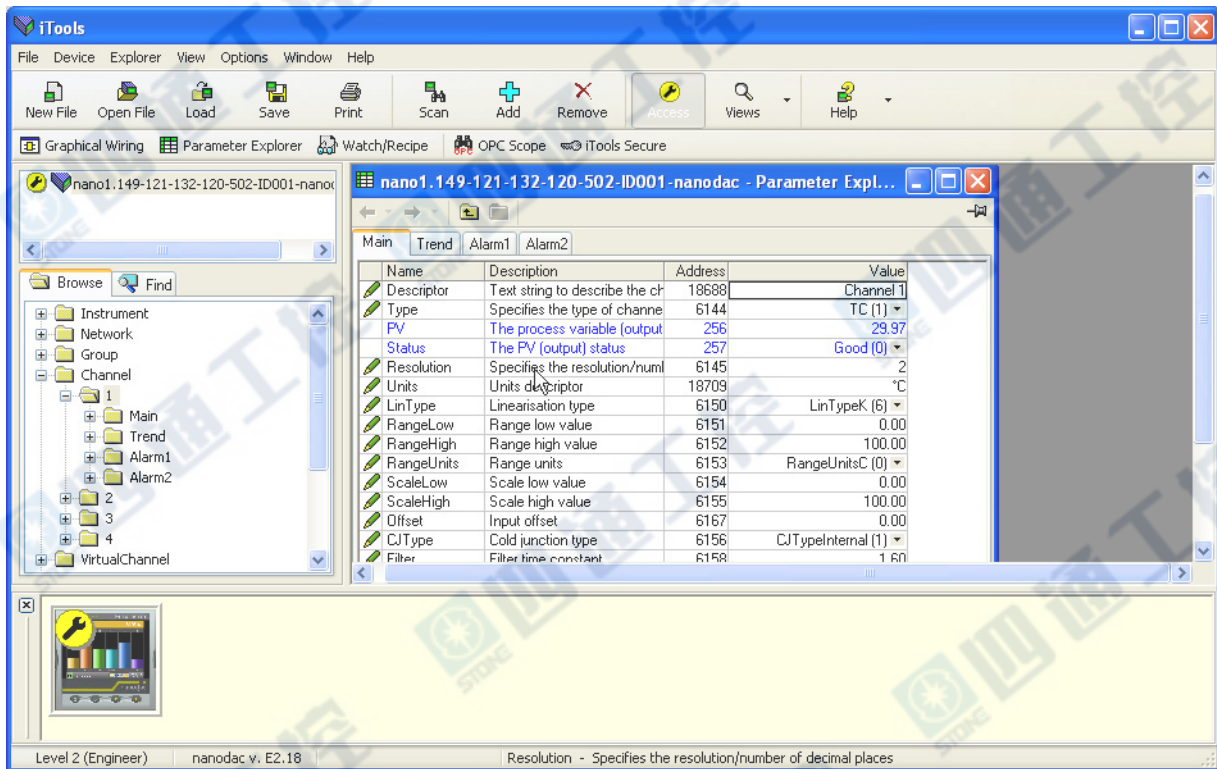
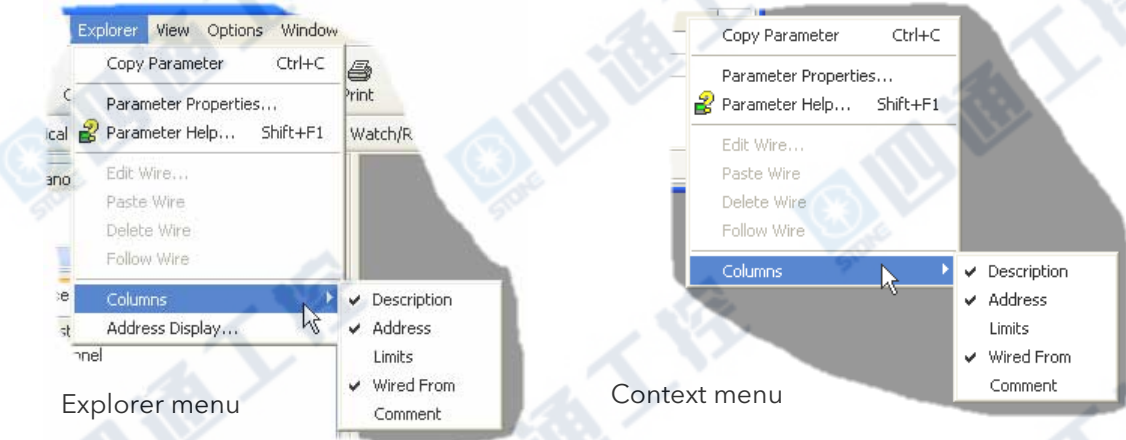

Figure 6.4a Parameter table example
Figure 6.4b Column enable/disable
In each case the function block parameters appear in the iTools window in tabular form, such as the example in figure 6.4a, below.
The figure above shows the default table layout. Columns can be added/deleted from the view using the 'Columns' item of the Explorer or context menus (figure 6.4b).
2. Columns. The default explorer window (figure 6.4a) contains the columns 'Name', 'Description', 'Address', 'Value', and 'Wired From'. As can be seen from figure 6.4b, the columns to be displayed can be selected, to a certain extent, using either the 'Explorer' menu or the context menu. 'Limits' have been enabled for the example above.